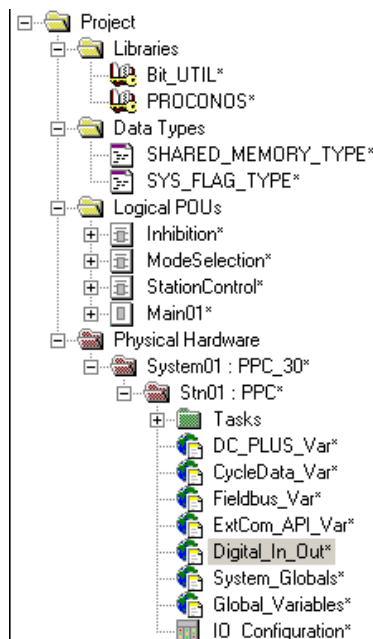

Figure 15: Worksheet Digital_In_Out
2. Ensure access to the **Digital_In_Out*** branch by clicking any necessary  to open the tree structure. See Figure 15.